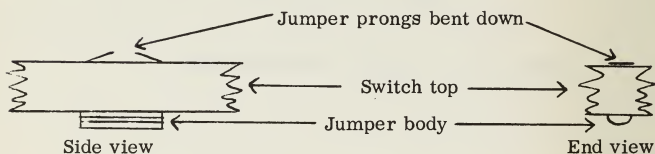

Figure 2 - 6 — Jumper, inserted in two adjacent holes along a spoke
12. Wipers. In between the jumper and the bolt, in the assembled multiple switch, is inserted a wiper, a springy piece of phosphor bronze with a hole and two small ridges. The shape of the wiper unbent, as it comes in the small envelope, is shown in Figure 2 - 7. The purpose of the wiper is to improve the electrical contact between the top of the switch (the disc containing the jumpers) and the bottom of the switch (the panel containing the bolts and nuts for the terminals). Patent is being applied for on these wipers.